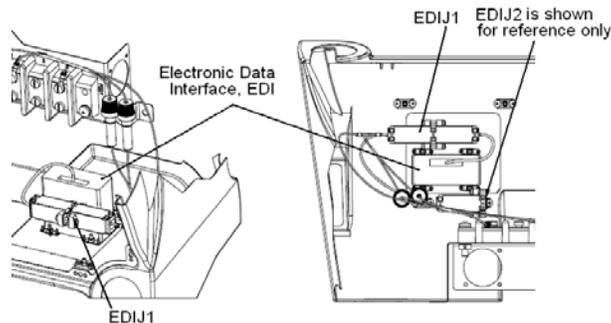

Figure 31-23 Showing the Location of the EDI Connector EDIJ1
8. Disconnect the Engine Data Interface, EDI, at the connector EDIJ1/SPD001. See Figure 31-23 for the location of the EDI and its associated connector.
6. Connect the Engine Data Interface, EDI connector EDIJ1 to the cable connector SPD001. See Figure 31-23 for the location of the EDI and its associated connector.